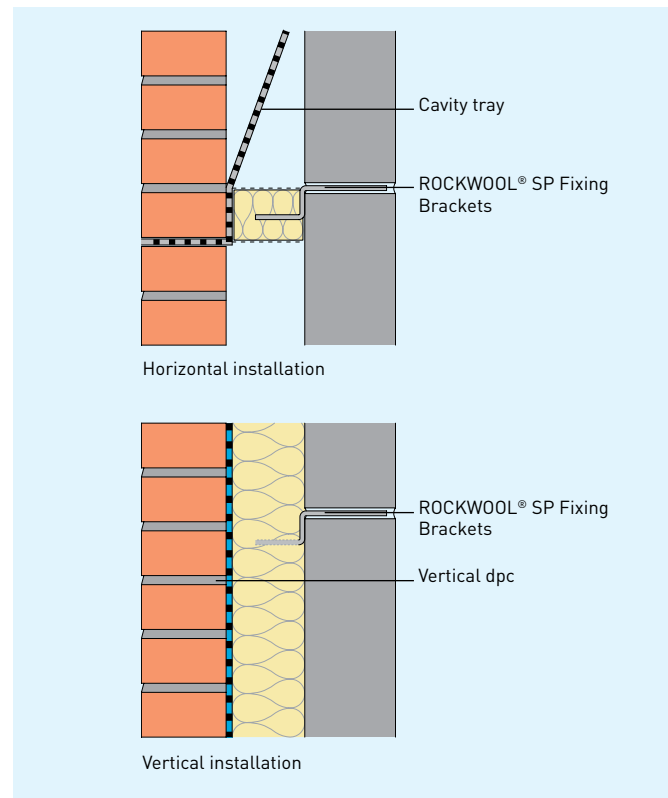

Figure 5 ROCKWOOL® SP Firestop Slab between masonry leaves
Figure 5 illustrates typical applications, with the product fitted tightly between masonry leaves. When it is not possible to build the brackets into a leaf, the fixings can be re-profiled as necessary and mechanically fixed to the face of the masonry.
- Work on both leaves can then be continued and must include either a vertical damp proof course or a cavity tray, installed over the ROCKWOOL® SP Firestop Slab as shown in Figure 5.